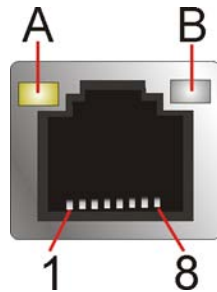

Figure 3-32: LAN Connector
- CN Pinouts: See **Figure 3-32** and **Table 3-30**